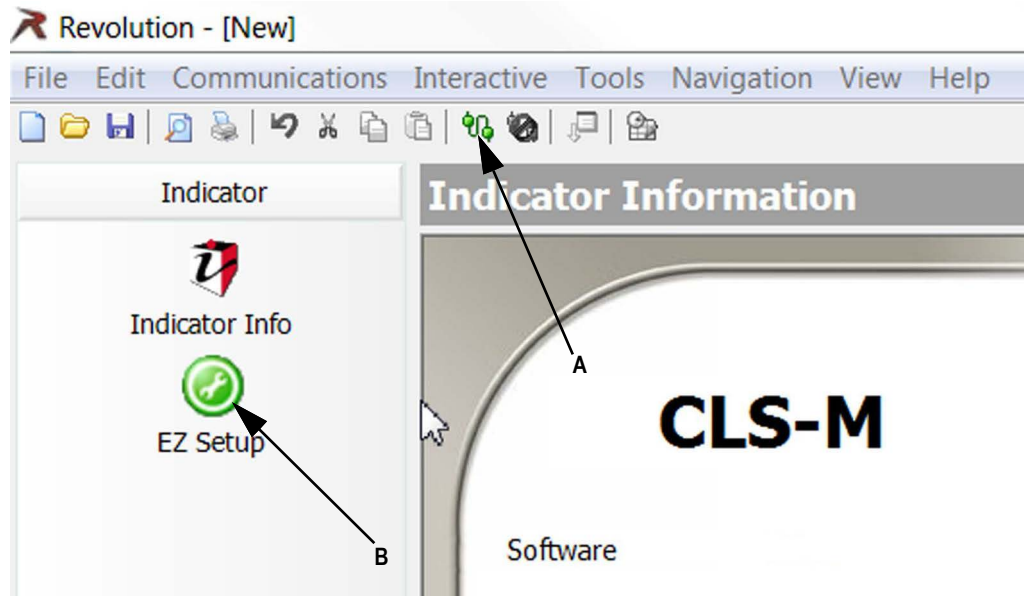
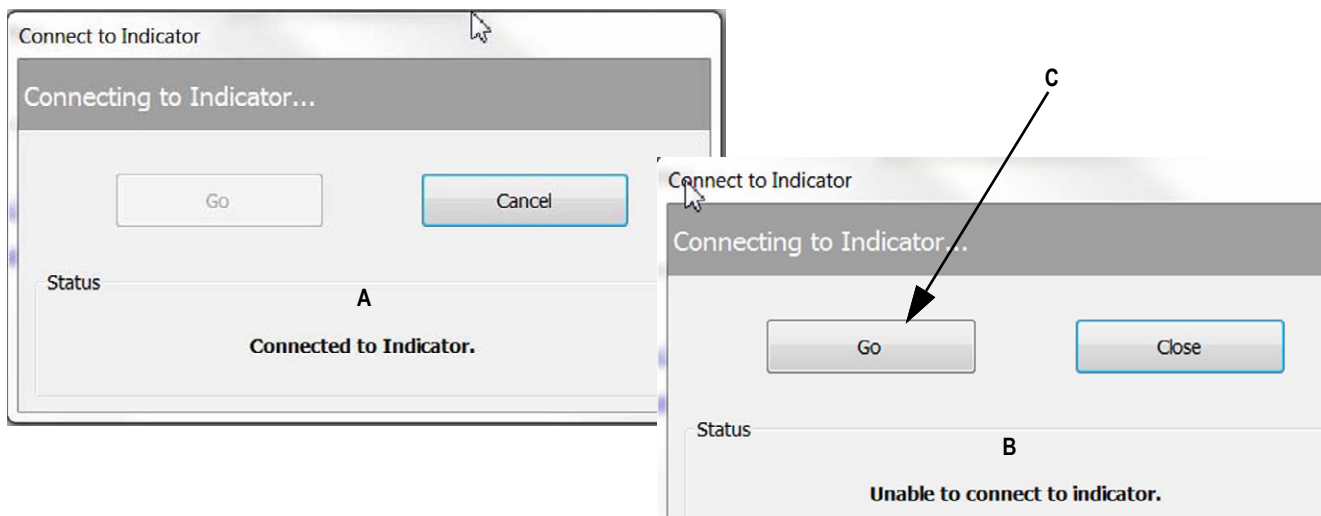

Figure 4-5. Connect Revolution
Figure 4-6. Connection Success/Failure
- Select the connect icon from toolbar (Figure 4-5 A). A pop-up box comes up momentarily (Figure 4-6 A) to indicate the computer is now indicated to the box.
- If it comes up as *Unable to Connect to Indicator* (Figure 4-6 on page 19 B) verify the Comm Port is correct and that the mobile PC is turned on. Then select **GO** (Figure 4-6 on page 19 C) to connect.